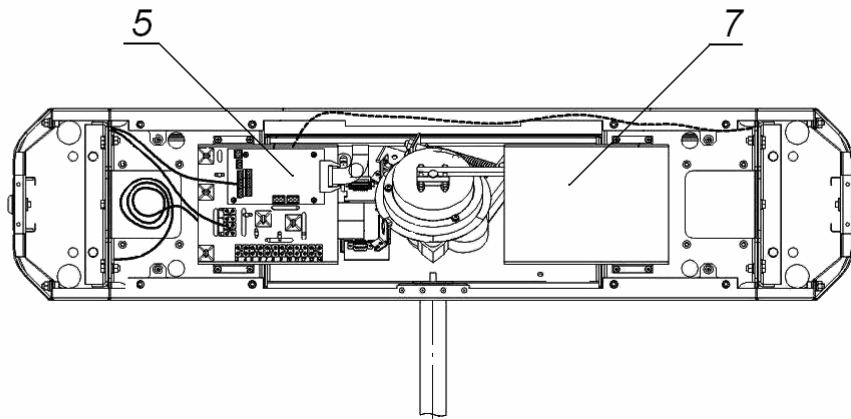
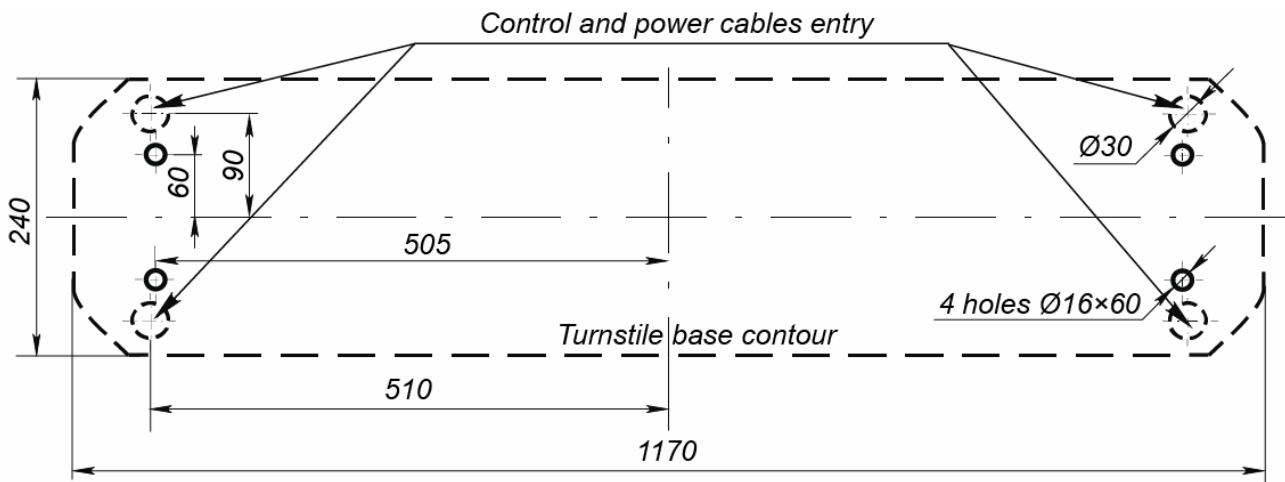

Fig. 10. Cable routing inside the TB-01.1 turnstile housing:
Fig. 13. TB-01.1 turnstile housing installation layout
- to mark the mounting holes according to Fig.13;
- 2 Make holes for anchor bolt sleeves for the turnstile housing installation (Fig. 13). Prepare a cable raceway for cables when cables are laid concealed under floor. Install and fix the turnstile housing only after all cables inside the turnstile housing and in electric raceways are laid. Cable routing inside the turnstile housing is shown in Fig. 10.
The turnstile design has the place designated for mounting of an ACS controller. The ACS controller is mounted on a bracket (7, Fig. 10). Maximum possible size of the mounted board is 160×150×35 mm.